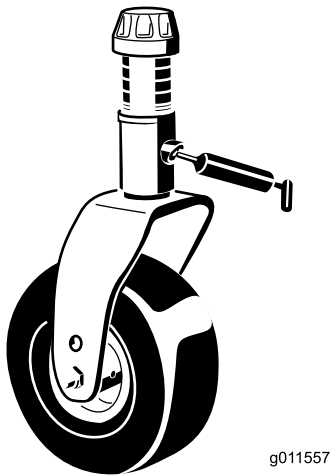

Figure 80
- 2 caster-fork-shaft bushings (Figure 80)